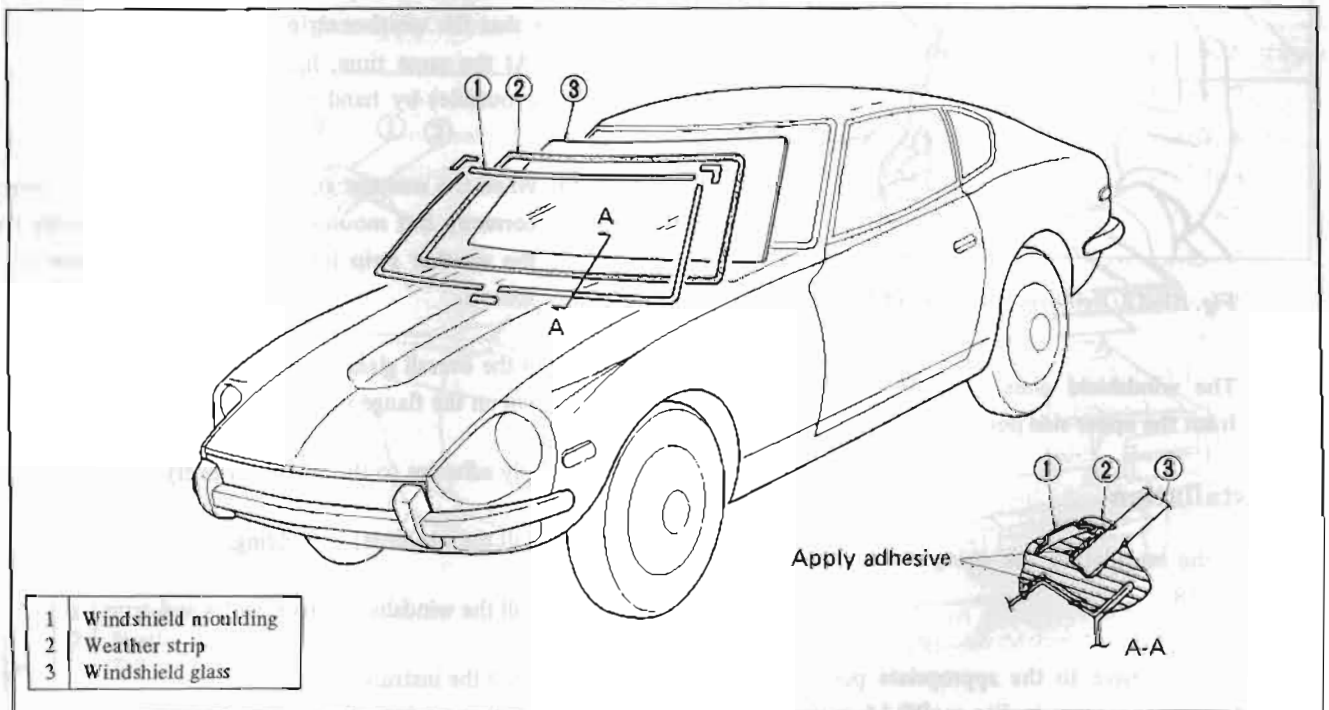

Fig. BF-16 Front windshield glass
2. Apply adhesive to the appropriate portions on the weather strip as shown in Figure BF-16, and apply the weather strip to the windshield glass.